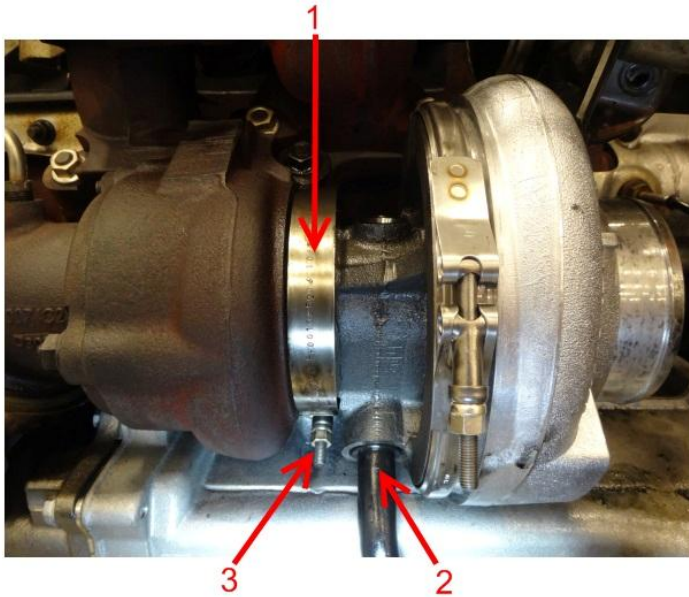

Figure 7: LP Turbocharger Center Section Installation
5. Using torque wrench, torque turbine V-band clamp (**Figure 7**, Item 1) to 13 lb-ft (17 N·m).